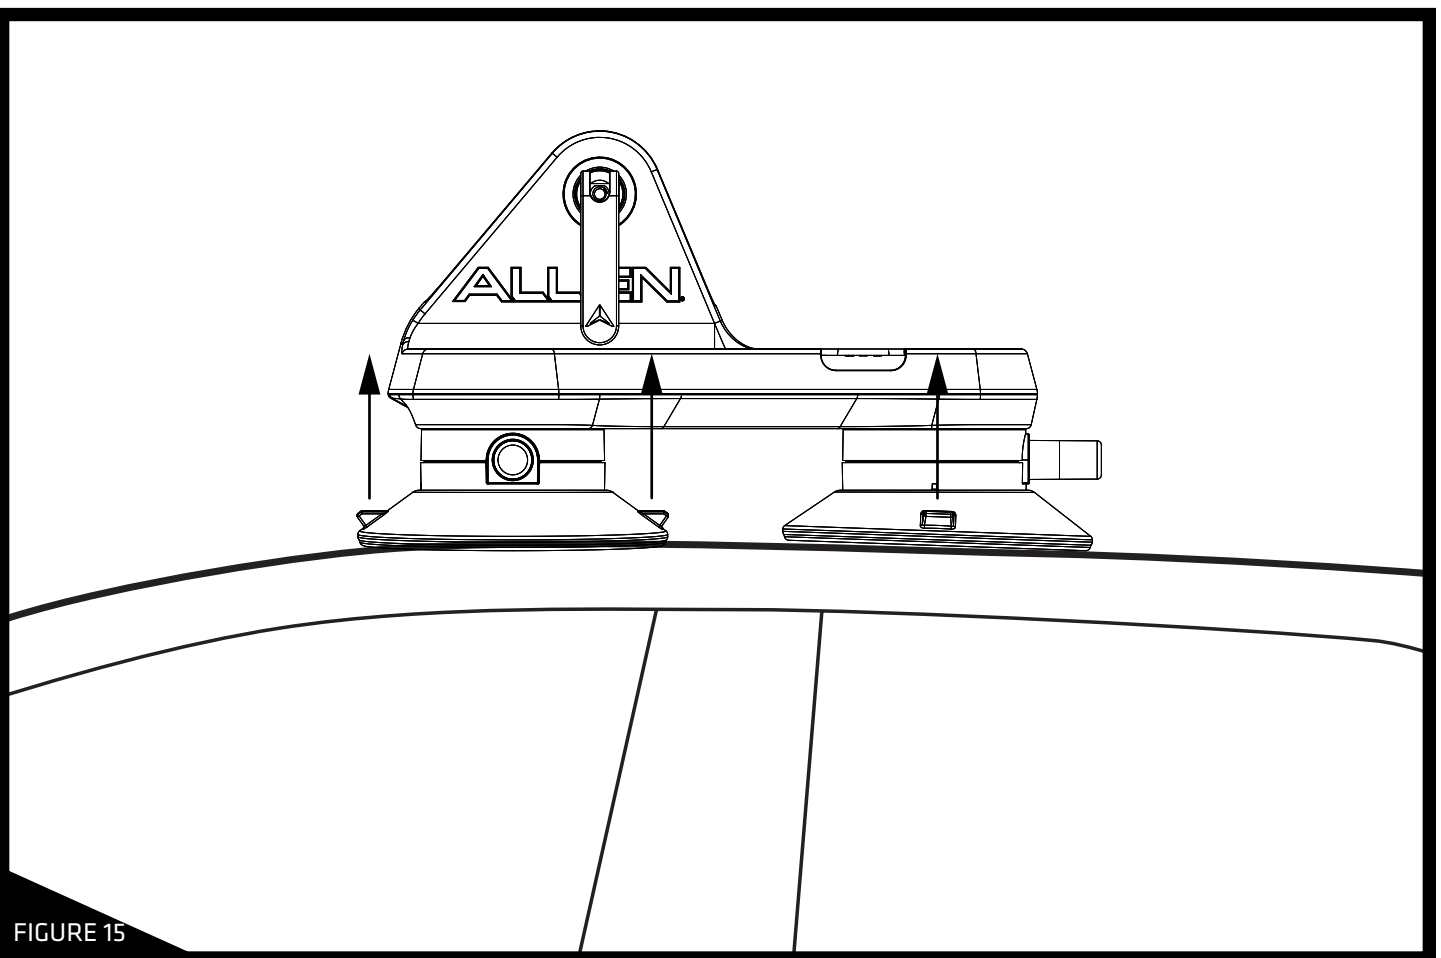

FIGURE 15
STEP 8: Remove the Smart Suction™ Go 1-Bike Rack from the vehicle as shown in **Figure 15**. Locate the tabs on the outer sealing edge of each suction cup. Lift up on the tabs to release pressure and break the suction seal on each of the four suction cups. The rack is now free to remove from the vehicle. Replace the red protective suction cup covers.